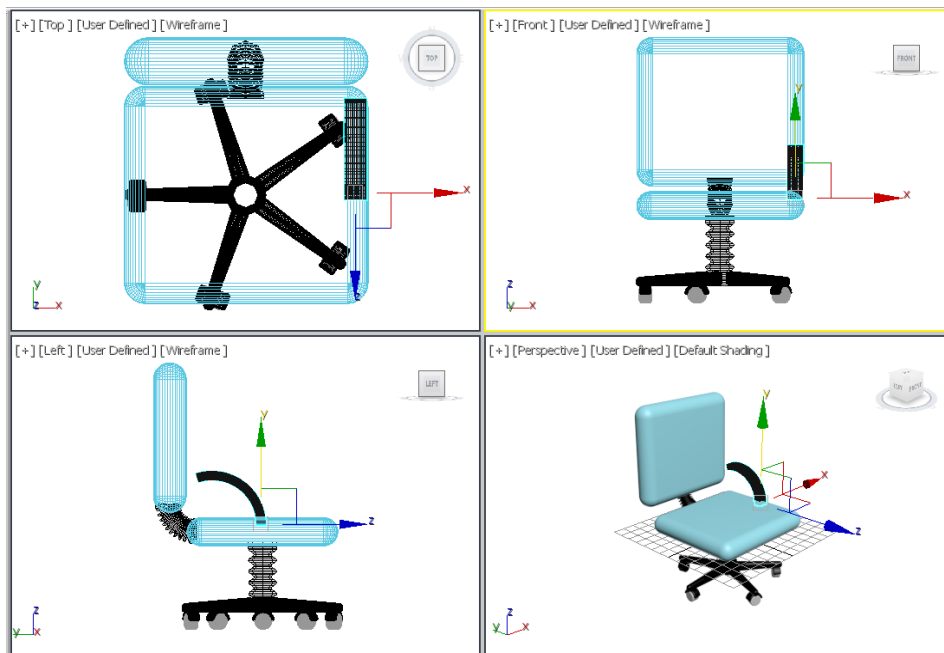

Figure 3-47 Alignment of *right hand support01* in viewports
8. Align *right hand support01* in all viewports, as shown in Figure 3-47.